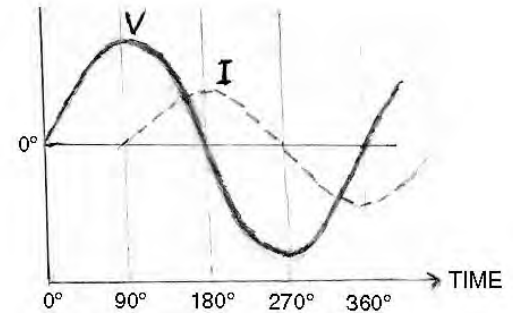

Figure 1
To answer this question let us look at the pattern of an alternating voltage in an AC circuit that has inductive impedance. Look at Figure 1. This is a drawing of an oscilloscope image of AC in a circuit that has inductive impedance.
If you make a graph of the voltage and current values on the vertical (Y) axis and degrees of rotation of the armature on the horizontal (X) axis you'll get a picture similar to Figure 1.
That being where the most rapidly changing magnetic field is is also where the maximum induced current will be generated. Looking again at Fig.1, it is apparent that maximum current and maximum voltage are separated by 90 degrees. The maximum current occurs 90 degrees after the maximum voltage.